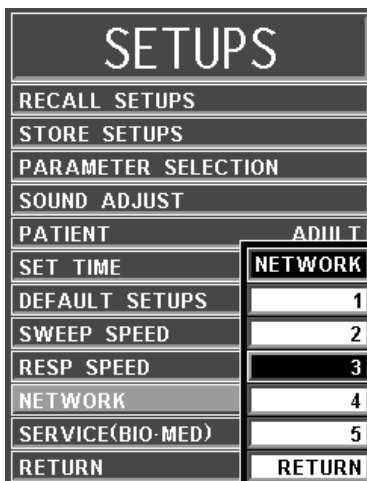

Figure 3-7. NETWORK Menu
- (10) **Network.** Selecting this menu option brings up the **NETWORK** Menu. The **NETWORK** Menu (See Figure 3-7) allow the operator to set the network designation of the monitor. This designation must match between the DCU and WPU for the two units to communicate. This menu option is identical to, and interactive with, the NETWORK option in the System Configuration Menu.